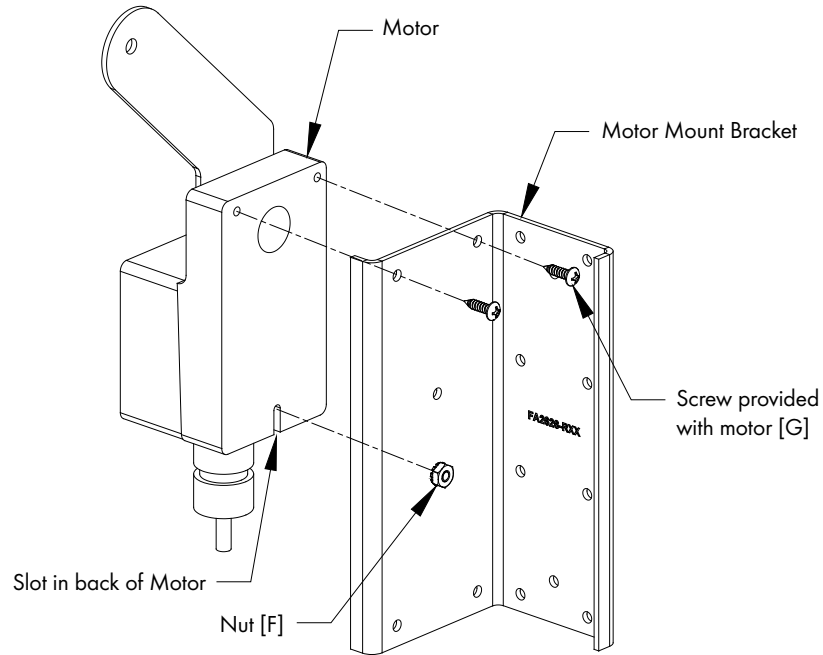

Figure 4
Install Motor onto Motor Mount by sliding the slot in the back of Motor over the Screw installed in last step. Also secure Motor to Mount using (2) Screws [G] provided with the motor. Tighten Nut [F]. See Figure 4.